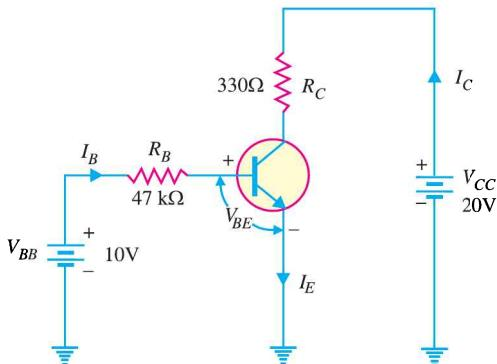

Fig. 8.40
**Example 8.25.** Determine the  $Q$  point of the transistor circuit shown in Fig. 8.40. Also draw the d.c. load line. Given  $\beta = 200$  and  $V_{BE} = 0.7 \text{ V}$ .
**Solution.** The presence of resistor  $R_B$  in the base circuit should not disturb you because we can apply Kirchhoff's voltage law to find the value of  $I_B$  and hence  $I_C$  ( $= \beta I_B$ ). Referring to Fig. 8.40 and applying Kirchhoff's voltage law to base-emitter loop, we have,